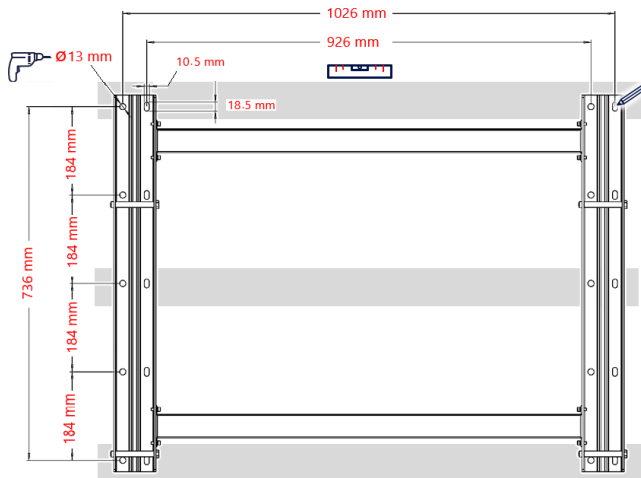

Figure 25 Marking the drilling holes in the mounting bracket
1. Level the mounting bracket of the inverter horizontally against the metal frame and mark at least eight drilling hole locations (see Figure 25).
- Remove the nut from AC 1 and AC 2 cable glands (see Figure 25) and lead the cables through the AC glands.